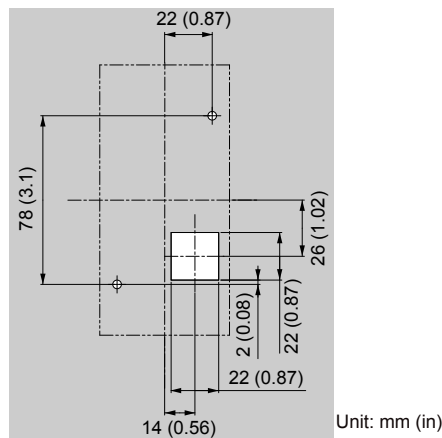

Figure 2.11 Panel Cut-Out Dimensions (External/Face-Mount Installation)
1. Cut an opening in the enclosure panel for the HOA keypad as shown in Figure 2.11.